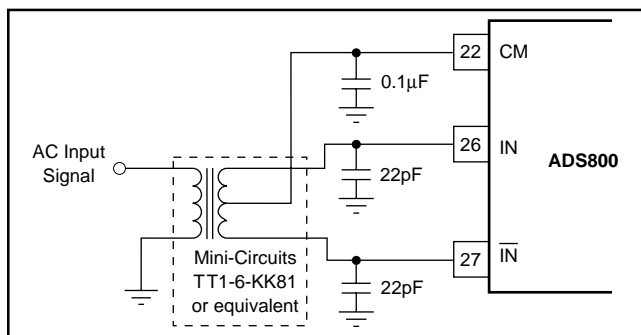

FIGURE 5. AC-Coupled Single-Ended to Differential Drive Circuit Using a Transformer.
The ADS800 has a differential input with a common-mode of +2.25V. For AC-coupled applications, the simplest way to create this differential input is to drive the primary winding of a transformer with a single-ended input. A differential output is created on the secondary if the center tap is tied to the common-mode voltage of +2.25V, as per Figure 5. This transformer-coupled input arrangement provides good high-frequency AC performance. It is important to select a transformer that gives low distortion and does not exhibit core saturation at full-scale voltage levels. Since the transformer does not appreciably load the ladder, there is no need to buffer the Common-Mode (CM) output in this instance. In general, it is advisable to keep the current draw from the CM output pin below 0.5μA to avoid nonlinearity in the internal reference ladder. A FET input operational amplifier such as the OPA130 can provide a buffered reference for driving external circuitry. The analog IN and  $\bar{IN}$  inputs should be bypassed with 22pF capacitors to minimize track-and-hold glitches and to improve high input frequency performance.